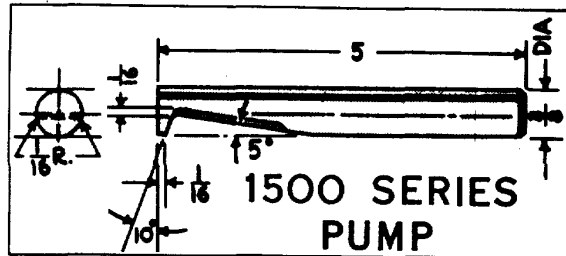
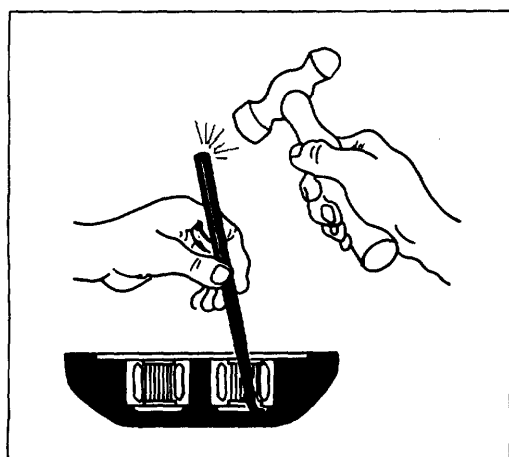

FIGURE 5 Tool Dimensions
FIGURE 6 Use of Tool Shown in Figure 39
- m. Remove roller bearings by starting them with tool shown in Figure 5. Insert tool under the bearing and into the cored hole, behind bearing bores, Figure 6.